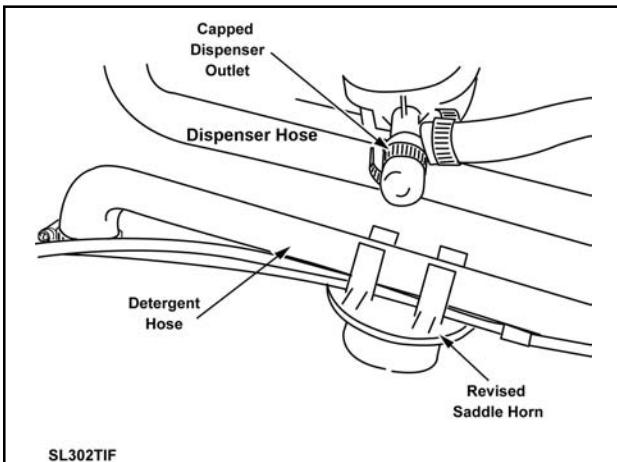

Figure 8-12
- The detergent hose turns 90 degrees toward the front of the washer and passes through the saddle horn on the top of the outer tub. Unsnap the hose from the saddle horn. *(See Figure 8-12)*